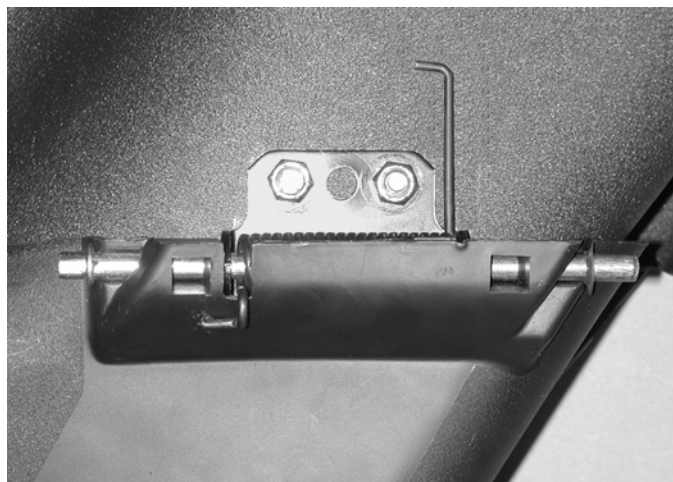

Figure 4
2. Set the discharge chute in place, fit the bracket over the bolts and tighten with the nuts (*Figure 4*).